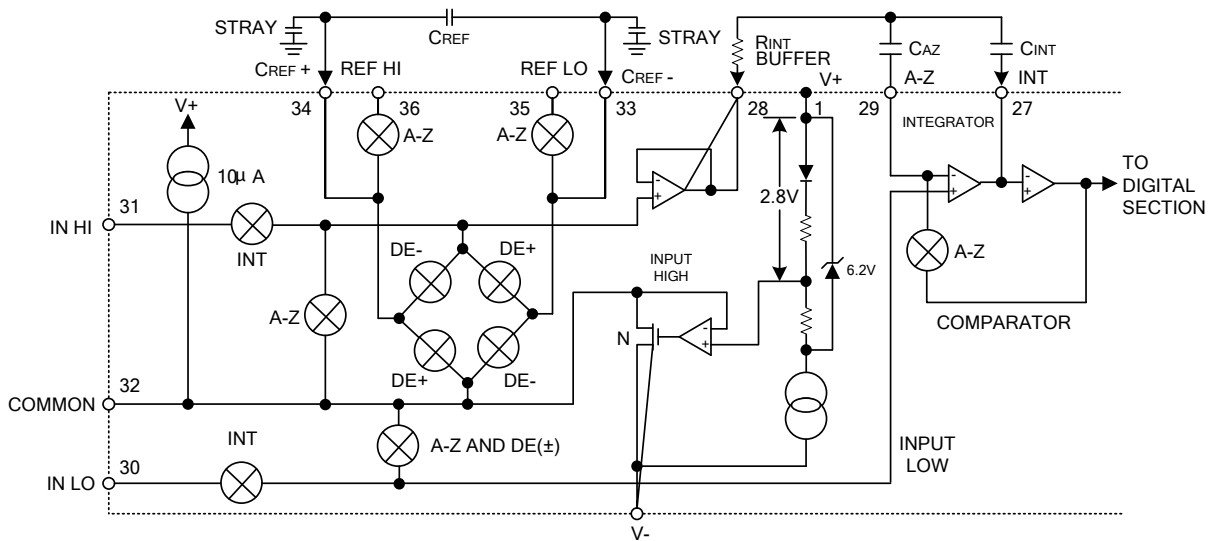

Fig.1 Analog Section
### ■ ELECTRICAL CHARACTERISTICS (TA=25°C, fCLOCK=48kHz, measured by the circuit of Fig.1)
Fig.1 shows the Analog Section for the UTC **7106**. Each measurement cycle is divided into three phases. They are (1) auto-zero(A-Z), (2)signal integrate (INT)and (3)de-integrate(DE).